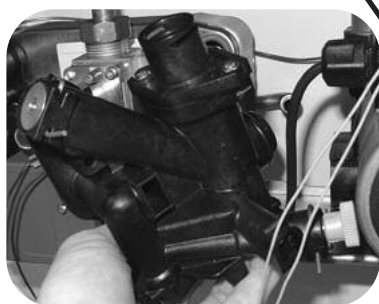

Fig. 87
5. Remove the Central Heating return body by pulling it toward you (Fig. 87);